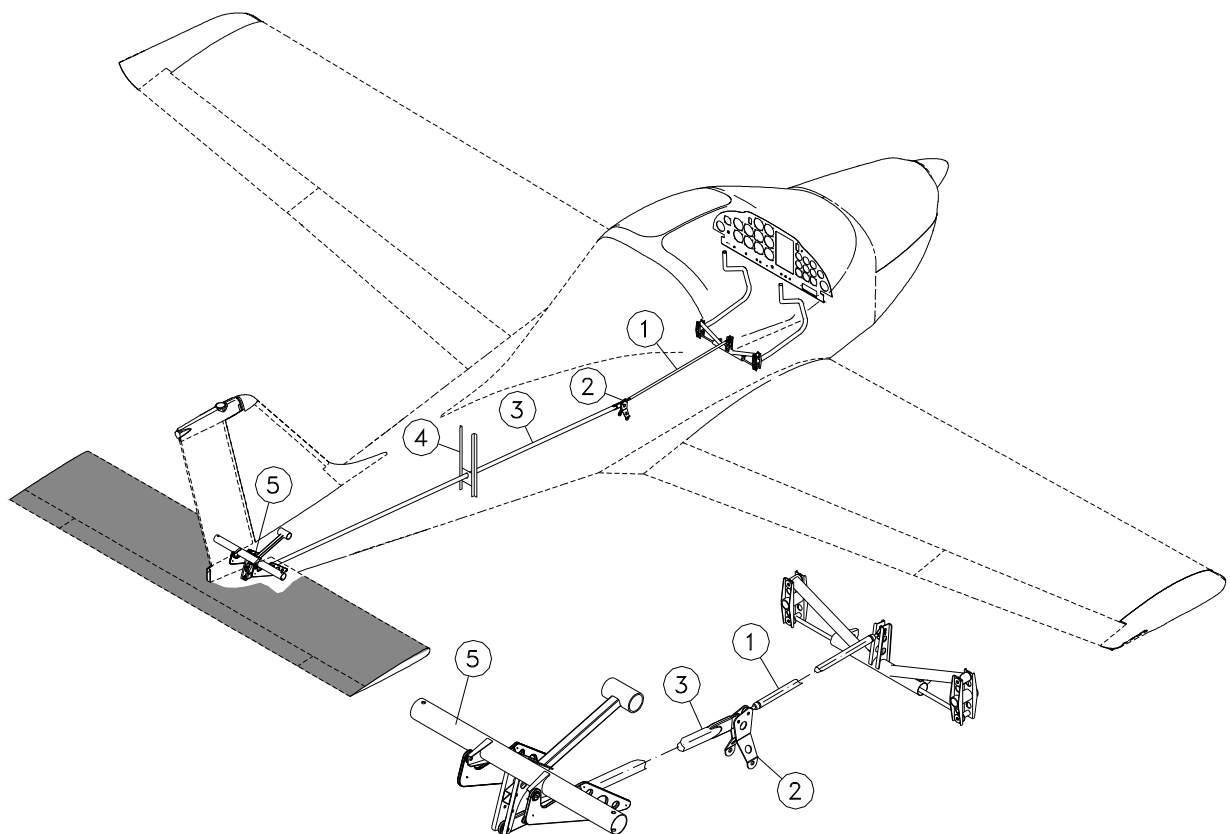

FIGURE C-7 STABILATOR CONTROL
The stabilator control system is push-pull type (see fig. C-7) and is controlled from the cabin via the control sticks. Control is transmitted through a push-pull rod (1) linked to a bellcrank (2) and a shaft (3) that runs through the tail cone supported at midsection by a bracket (4) and connected with the stabilator's torque tube through the aft bellcrank assembly (5).